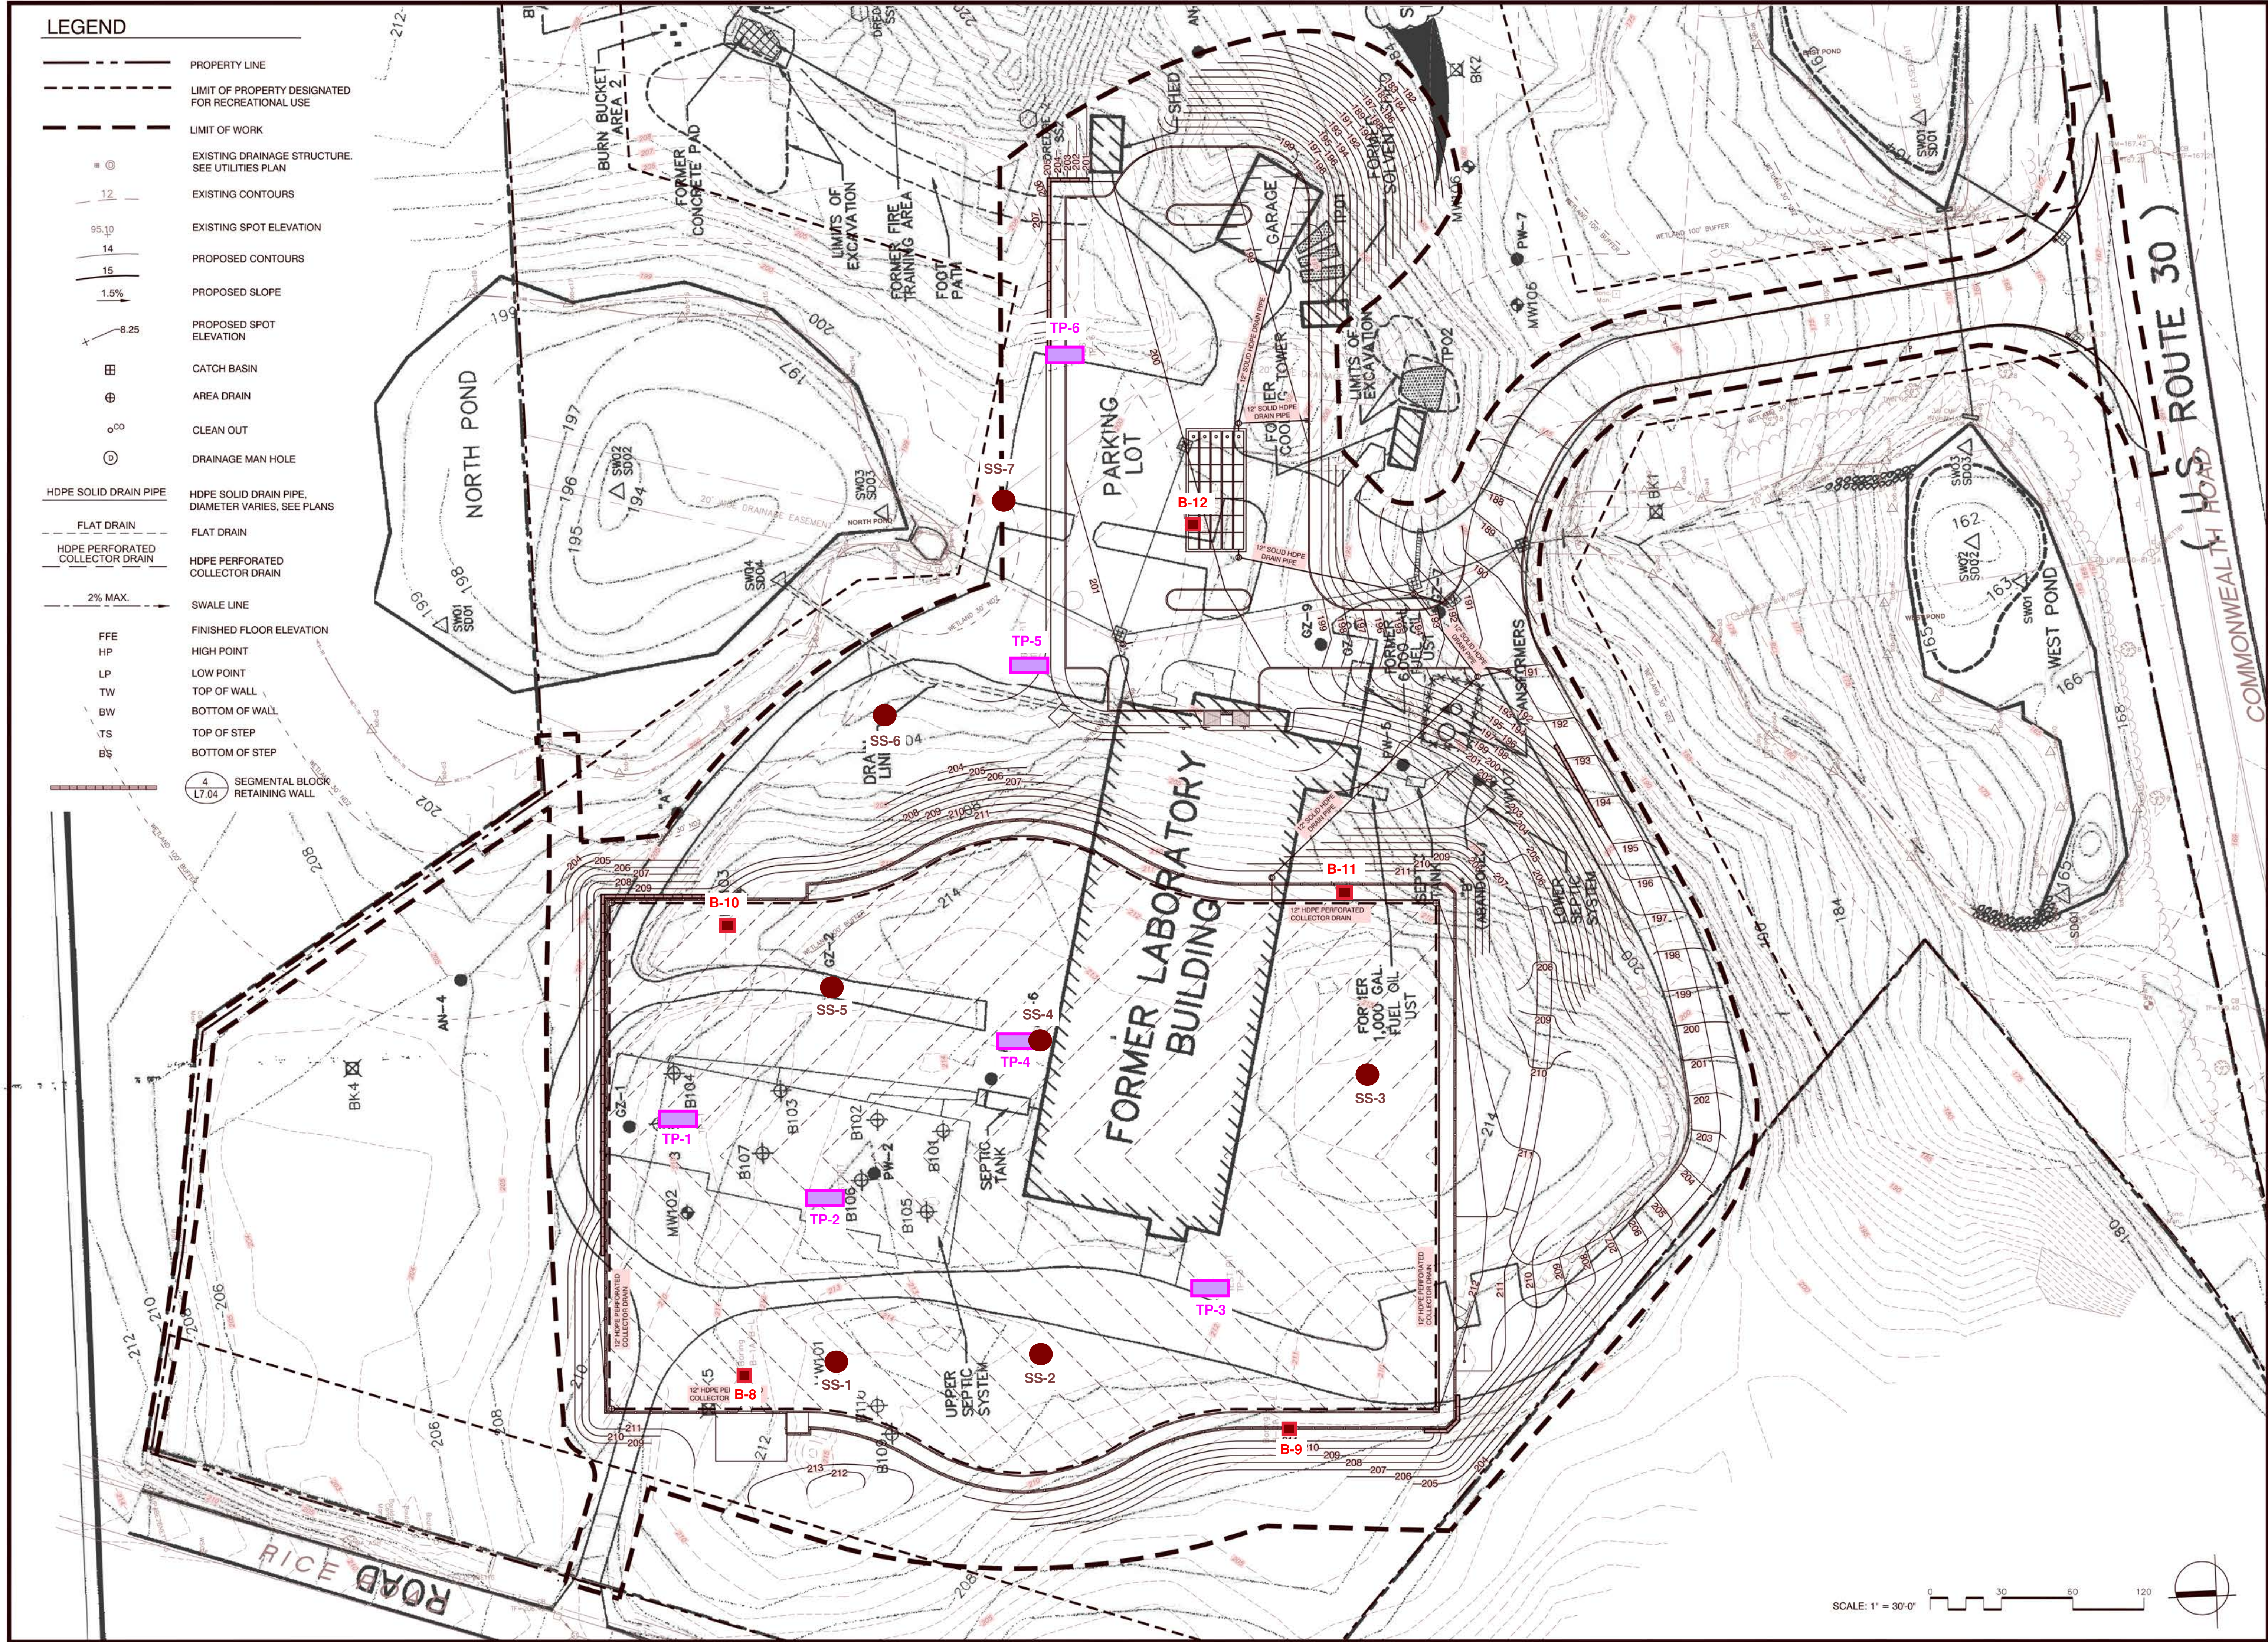

**FIGURE 1: SITE SKETCH
On March 12, 2018, Weston & Sampson directed the advancement of five (5) soil borings at the Site. See Figure 1 for approximate soil boring locations.
On March 21, 2018, Weston & Sampson directed the advancement of six (6) test pits at the Site. Soil samples were collected from at least two depth intervals from each test pit. Weston & Sampson also collected seven (7) surface soil samples at the Site. Surface soil samples were hand dug and collected to a depth of 12 inches below grade. See Figure 1 for test pit and surface soil sample locations.